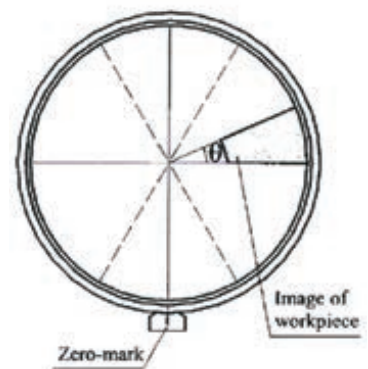

Fig.11 Angle Measurement
- Adjust the tip of the angle into the graduated center of the screen (See Fig. 11).